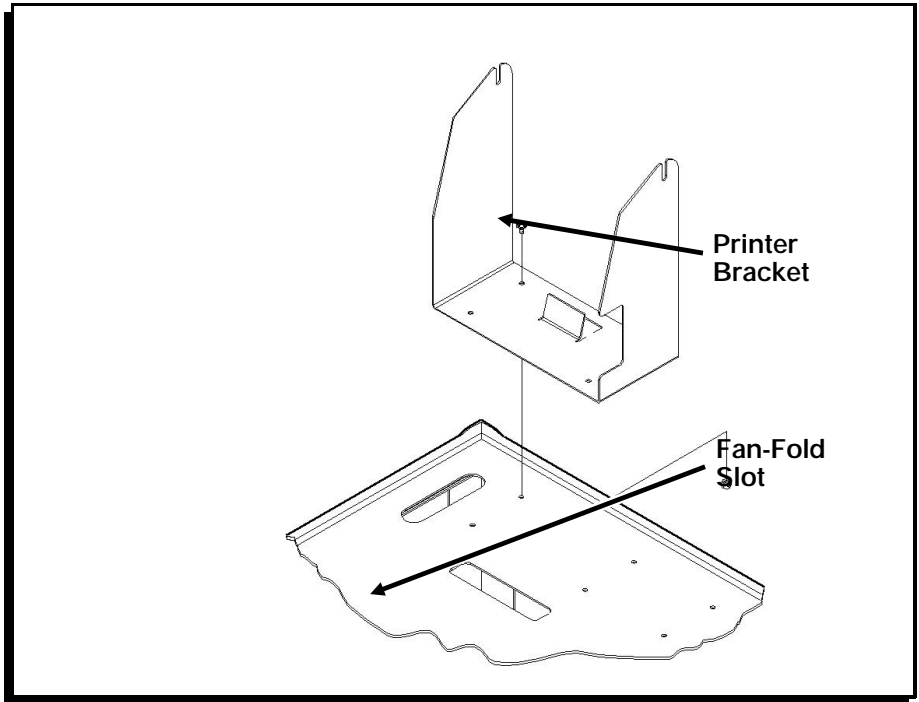

Figure 16
2. Position the printer bracket on the top shelf of the Station, facing one of the Station's fan-fold slots as shown. Align the holes in the printer bracket with the holes in the shelf and fasten with 8mm screws and M4 nuts. (Figure 16.)